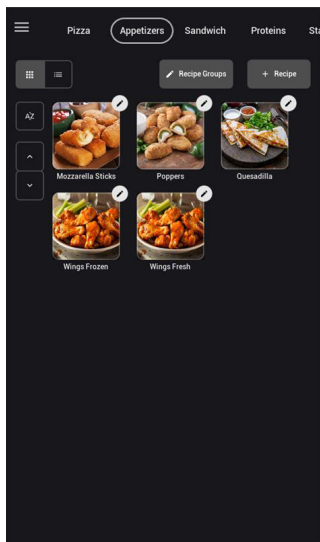

Figure 20: Select Group to Edit
- Touch the Edit button next to a group on figure 20.